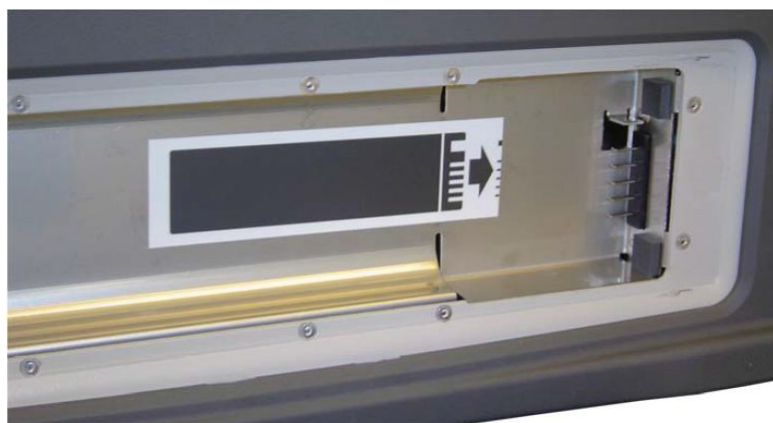

Figure 4-5. Battery Contacts and Orientation
5. Replacement is the opposite of removal. Note the orientation of the battery contacts, and be sure to insert the battery with the contacts facing the bottom of the instrument (not facing the cover plate). See Figure 4-5. The diagram inside the battery compartment is a reflected image of the battery to show how the battery connectors align with the pins inside the compartment. To avoid connector pin damage, you must not press the battery downward onto the connector pins within the battery compartment. You must position the battery door assembly so that the battery connections can slide lengthwise onto the connector pins as you seat the door assembly against the bottom of the PIM Master. The tab on the door fits into a slot located on the edge of the case, adjacent to the connector pins.